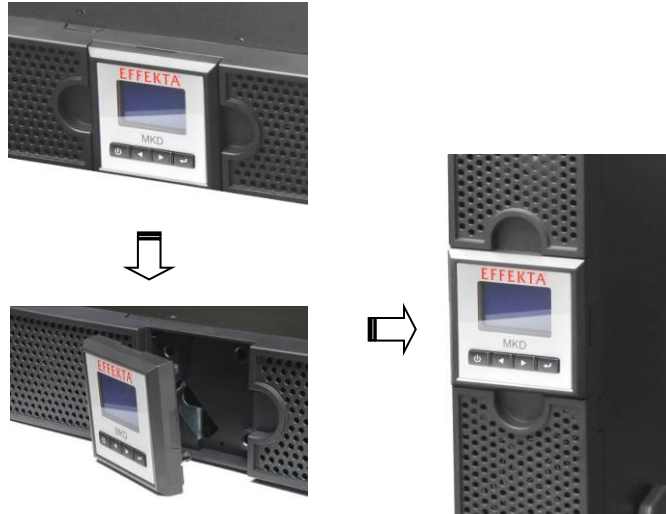

Fig. 5-10 Turn the control panel according to the installation.
Step 4: To maintain the usual readability and ease of operation, turn the control panel 90°. Proceed here according to the illustration (Fig. 5-10).